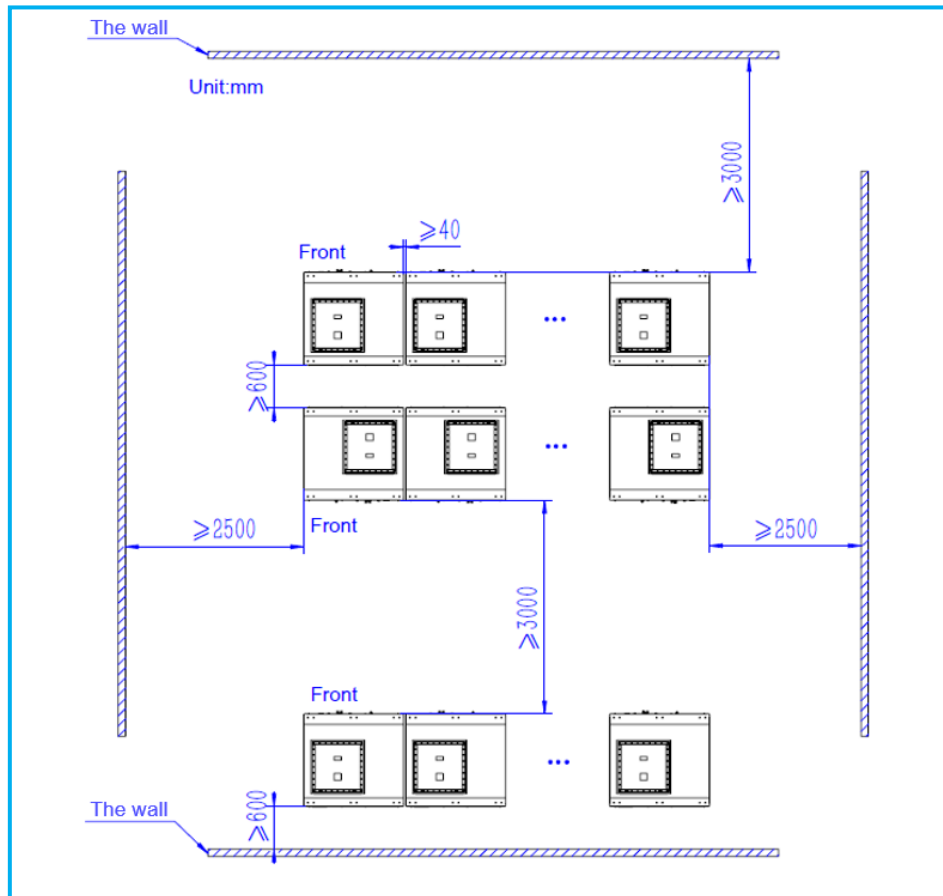

Figure 4-1 Space requirement
10. Choose an open location according to the requirement of Figure 4-1, and ensure that there are no obstacles from the surrounding area.